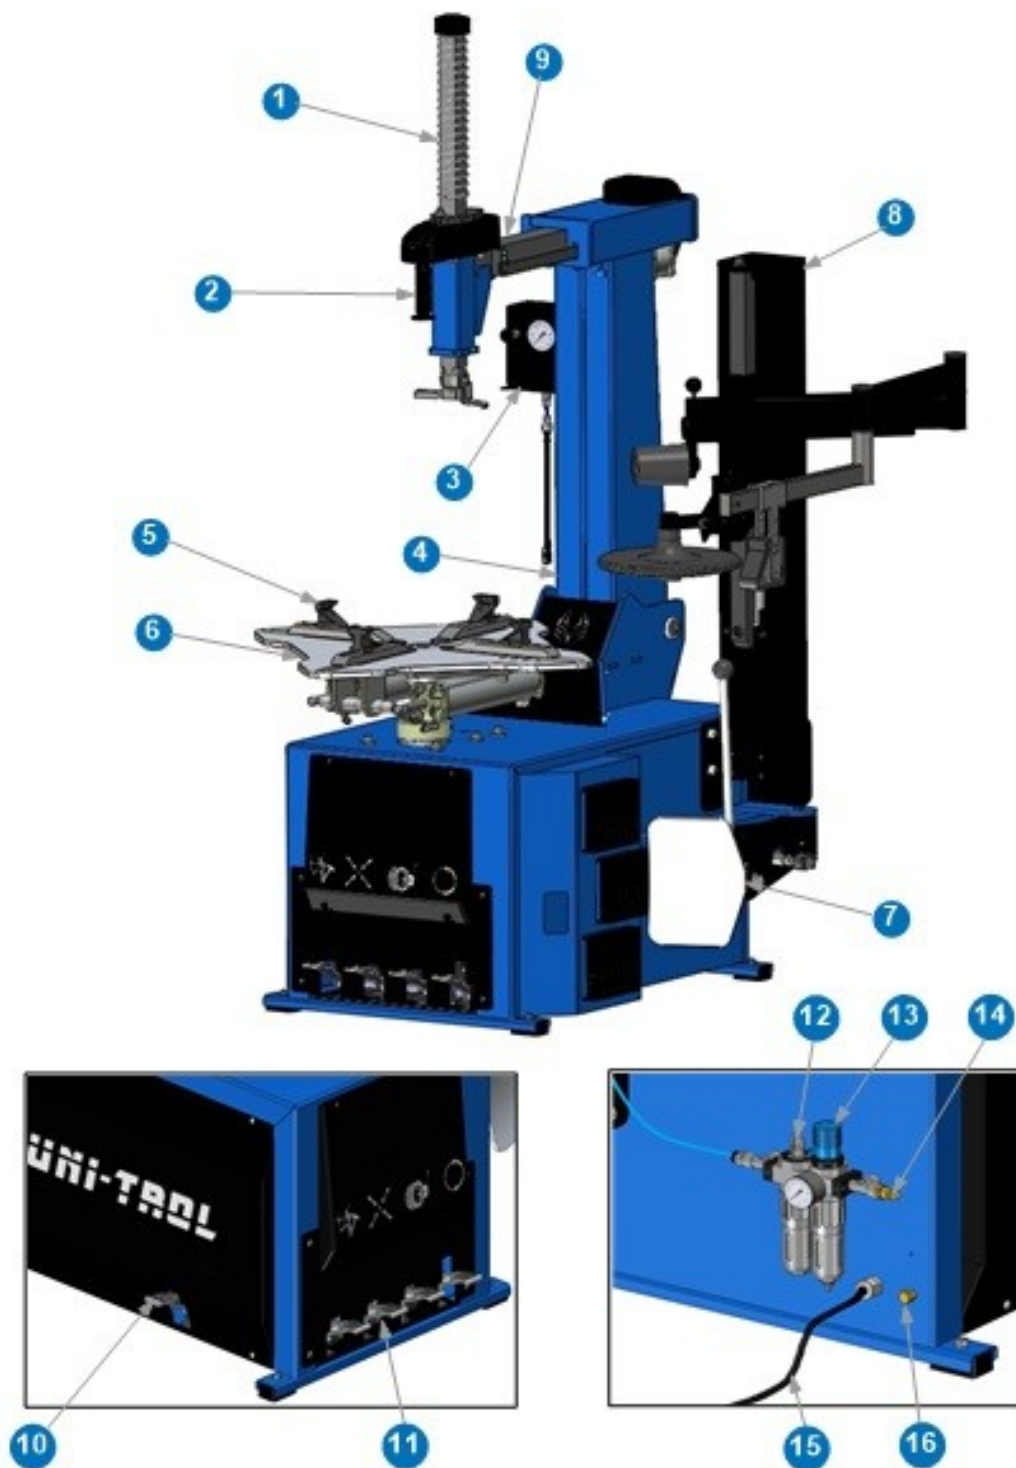

Fig. 2. Tyre-changer main elements.
Fig.2 shows the main elements of the tyre-changer.
Connect the compressed air supply hose to the terminal (fig. 2 item 14).
Check that the lubricator (fig. 2 item 12) is filled with oil (see "OIL RECOMMENDATIONS AND WARNINGS"). If not disconnect the air supply, unscrew the bottom of the tank and refill the oil. Adjust the dripping by turning the lubricator adjustment screw to the left or right. By pressing pedals 16 and 17 in turn check whether the handle lugs move and the column tilts.